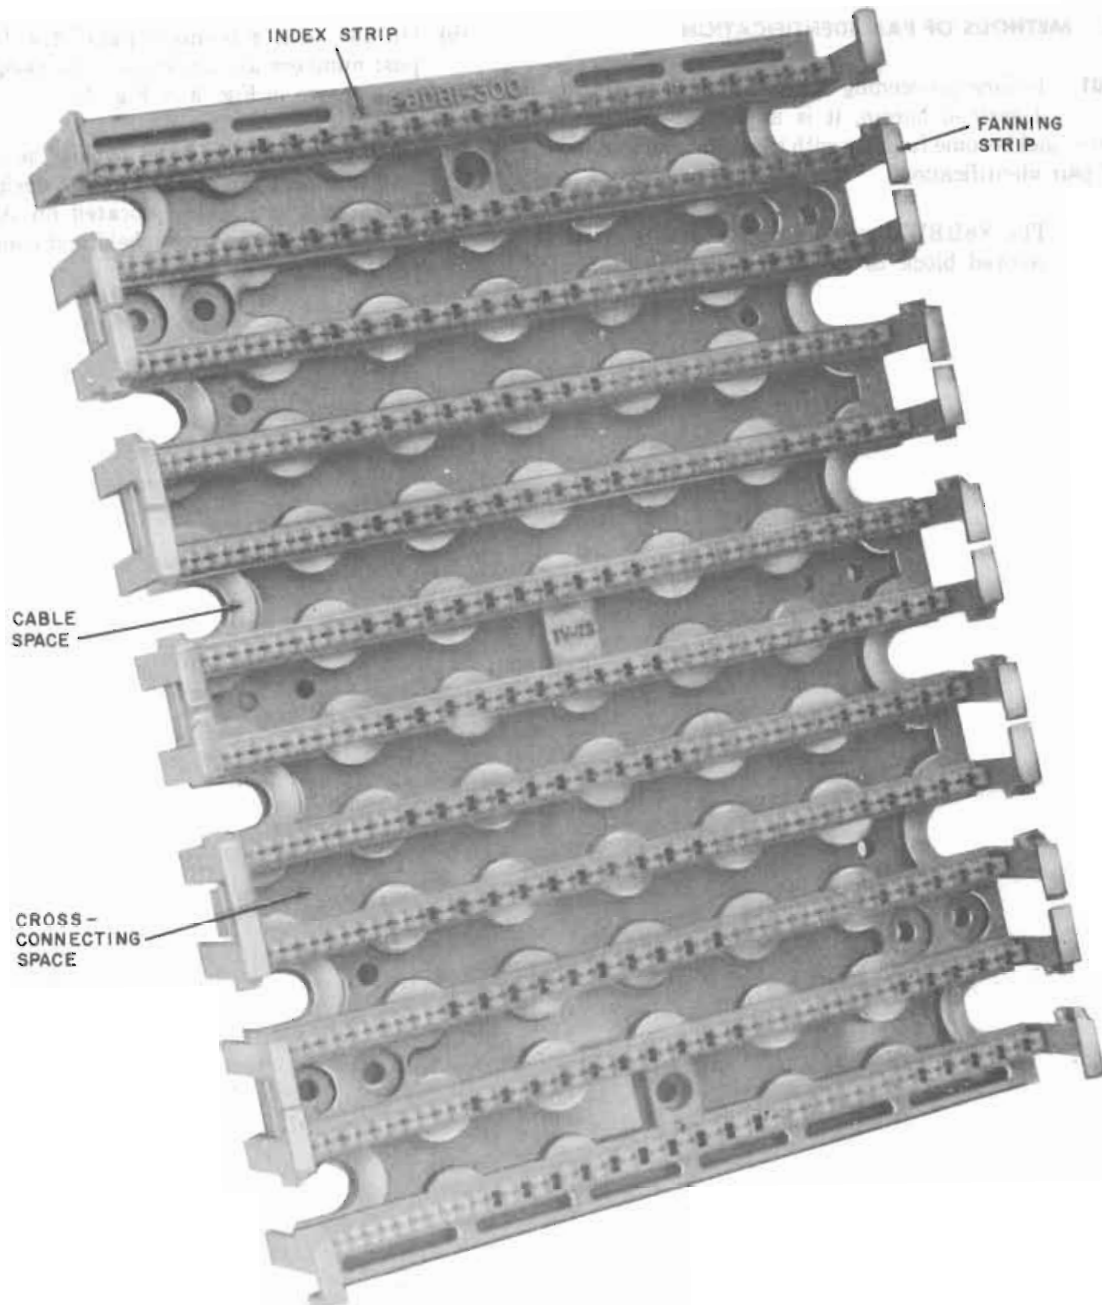

Fig. 2—Wiring Block
**1.09** The names of the various parts of the wiring block on which the connecting blocks are placed are shown in Fig. 2.